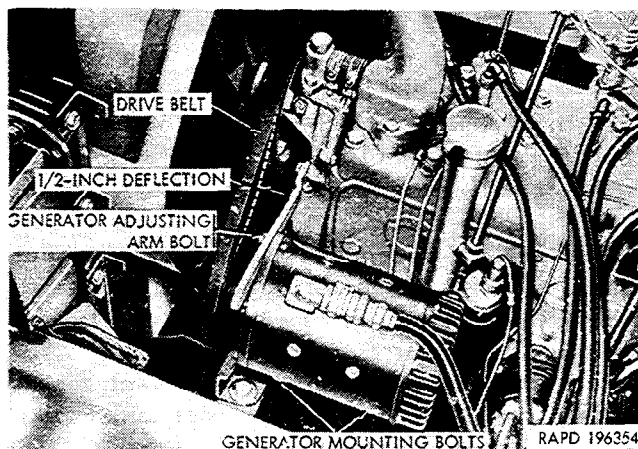

Figure 2-119. Adjusting fan and generator drive belt.
a. Adjustment. Loosen the generator adjusting arm bolt, and move the generator toward or away from the engine to provide 1/2-inch deflection of the belt (fig. 2-119). Tighten the adjusting arm bolt.
(1) Loosen the generator adjusting arm bolt (fig. 2-119) and push the generator toward the engine as far as possible. Disengage the belt from the generator drive pulley, the crankshaft pulley, and the fan drive pulley and remove the belt over the fan blades.
(2) Place a new belt over the fan blades, install it in position on the crankshaft pulley, the fan drive pulley, and the generator drive pulley. Adjust the belt (a above).